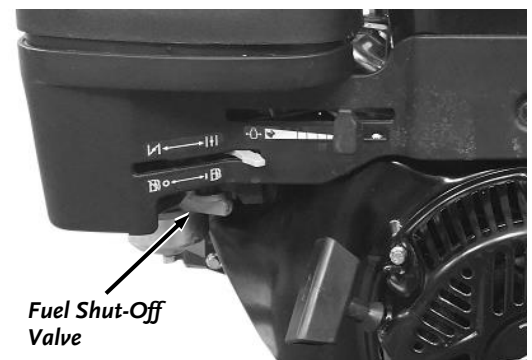

Figure 24
3. Ensure that the Fuel Shut-Off Valve is in the “ON” position (**Figure 24**).
**Note:** Check and re-tighten the Drive Belt, if necessary, after an initial break-in period of one (1) hour (see Chapter 4 “Maintaining the DR SELF-FEEDING WOOD CHIPPER”).